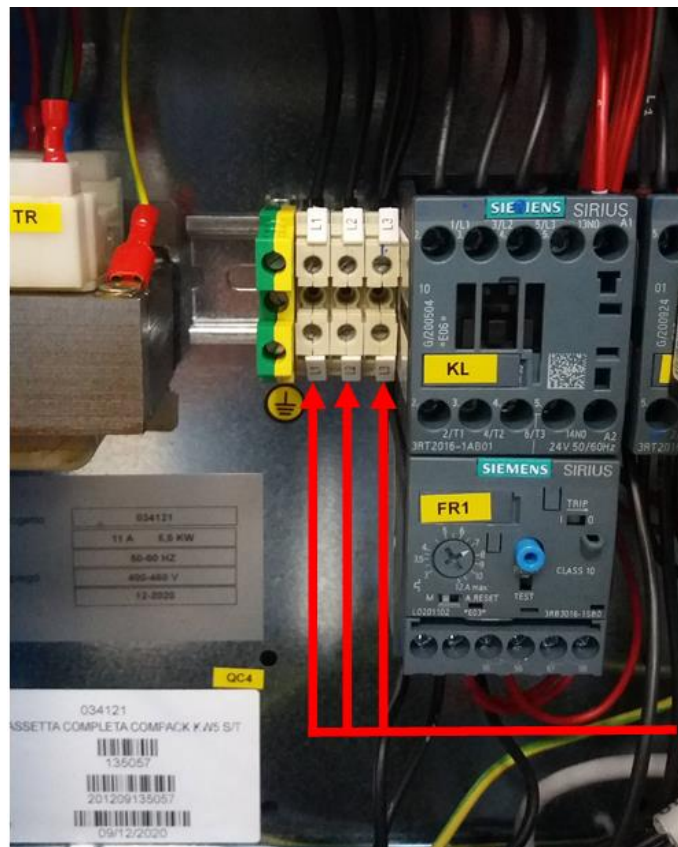

Figure 6
- 2- Connect L1 L2 L3 to the terminal block as shown in figure 6.